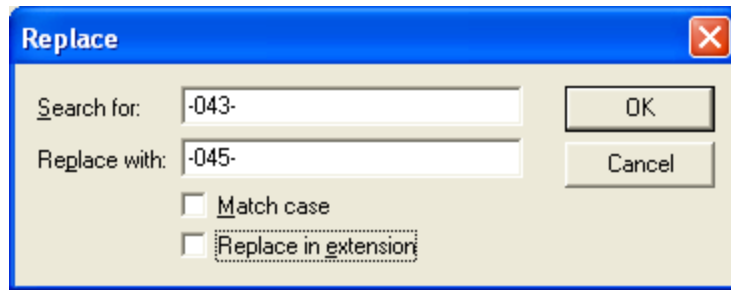

Figure 1. The Replace dialogue box and correct fields necessary to correct the incorrectly-named file presented in the example.
The Song Meter is designed to be affixed to a post or tree. It is imperative that the device is mounted in a manner that does not allow it to shake or bounce off the mounting object under windy conditions, as this could cause damage to the device or add unnecessary noise to the recordings. To avoid creating screw holes in trees in SECN parks, and acquiring and carrying the equipment necessary to attach the devices with this technique, we designed an alternative approach that uses a harness and mounting cords. Our approach uses the existing holes in the back cover of the Song Meter, intended for screws, to attach two 3-mm nylon utility cords with a stopknot on the inside cover. Each cord (i.e., harness) is run from the screw hole at the top of the device to the screw hole at the bottom of the device and is approximately 7-10 cm longer than the height of the ARD (i.e., approximately 18 cm) (Figure 1). The ARD is mounted to a tree, pole, or other object with two 4-6 mm nylon utility cords (i.e., mounting cord). Because the dimensions of potential mounting objects vary substantially, the mounting cord length is approximately 4-5 ft (1.2 – 1.5 m) (Figure 2). Two-hole cordlocks are attached to one end of the mounting cord and one end of the mounting cord is secured with a stopknot. The other end remains free and is wrapped around the mounting object in any arrangement necessary to ensure the ARD is securely affixed to the mounting object. The free end of the mounting cord is fed through the second hole in the cordlock and then tightened with the cordlock. This mounting technique has proven to be very successful, inexpensive, adaptable, and easy to apply in the field.
Figure 1. Utility-cord (3 mm) harness (red arrows) attached to the back of the automated recording device. Harness is affixed through the existing screw-hole mounts with an inside stopknot.
- a. Example: An ARD deployed at HOBE was incorrectly programmed in the field. It was deployed at sampling location 045, but was accidentally programmed as sampling location 043. Therefore, all files from that ARD have the incorrect sampling location in their name. Figure 1 depicts the correct fields for the "Replace" dialogue box. Note the dashes before and after the field values. All instances that A.F.5 finds 043 together will be replaced with 045. Therefore, if the dashes are not present, not only will the sampling location be changed in the filename, but the time stamp for all files made at 0430 (4:30 AM) will be changed to 0450 (4:50 AM) as well. The dashes, which are present in the filename designating the sampling location, prevent this from happening.